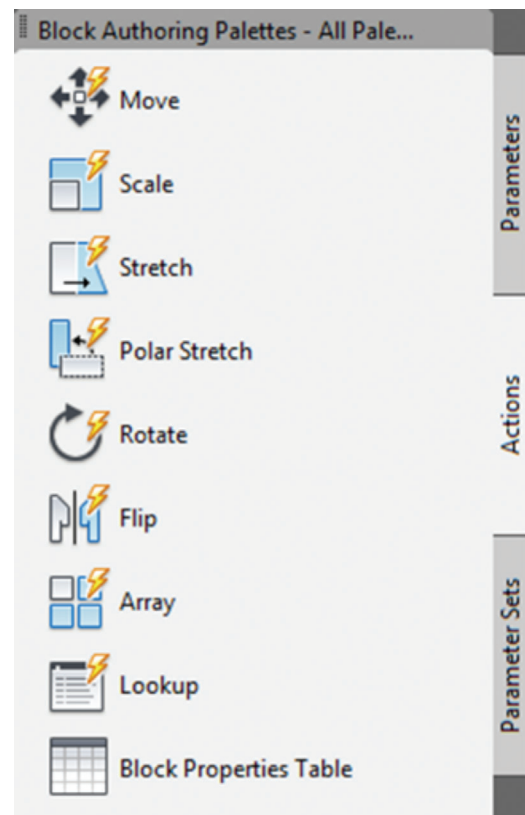

Figure 3
4. Match an Action with your parameter (see Figure 3).